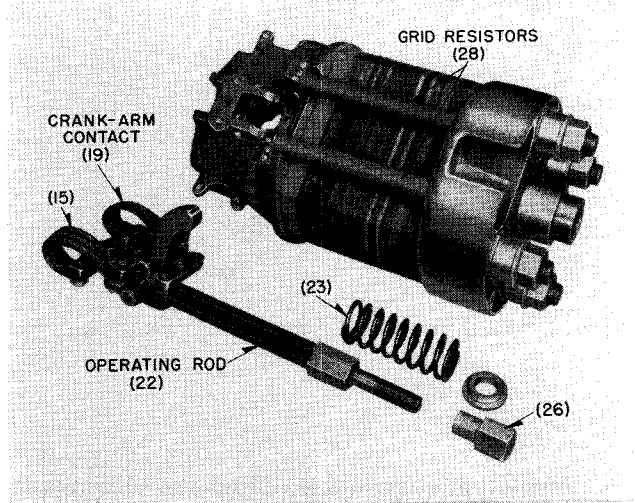

FIG. 19a. Removing Crank Arm Contact
Contact Removal. If there is enough burning to warrant removal of the contacts, this may be done rather easily. The crank-arm contact (19) may be removed as an assembly with shunts and operating rod as shown on Fig. 19a by first removing the nut (26) and spring (23) at the lower end of the operat-